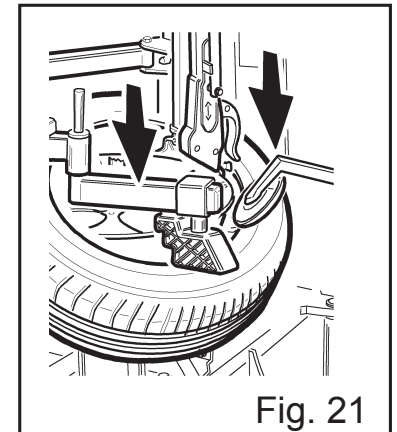

Fig. 21
- If this is not the case, which is an indispensable condition to be able to mount the tyre correctly, use the mobile bead presser to push the bead in the channel, pressing roughly in the “6 o'clock” position, and where necessary, to insert the bead of the tyre in the channel of the rim (fig.21)